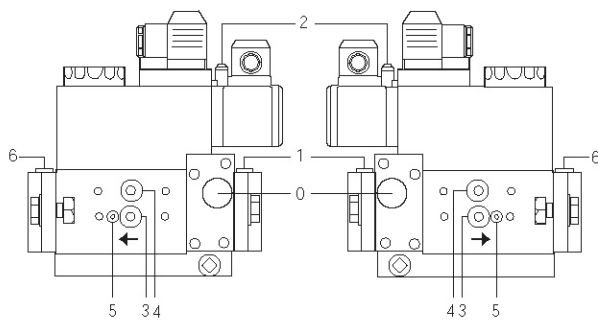
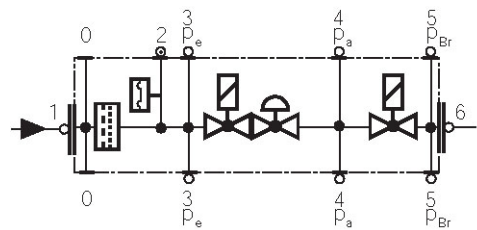

Fig. 35
Fig. 36
- Change the filter if the pressure difference between pressure connection 1 and 3 (Fig. 35-Fig. 36) is $\Delta p > 10$ mbar.
- Change the filter if the pressure difference between pressure connection 1 and 3 (Fig. 35-Fig. 36) is twice as high compared to the last check.